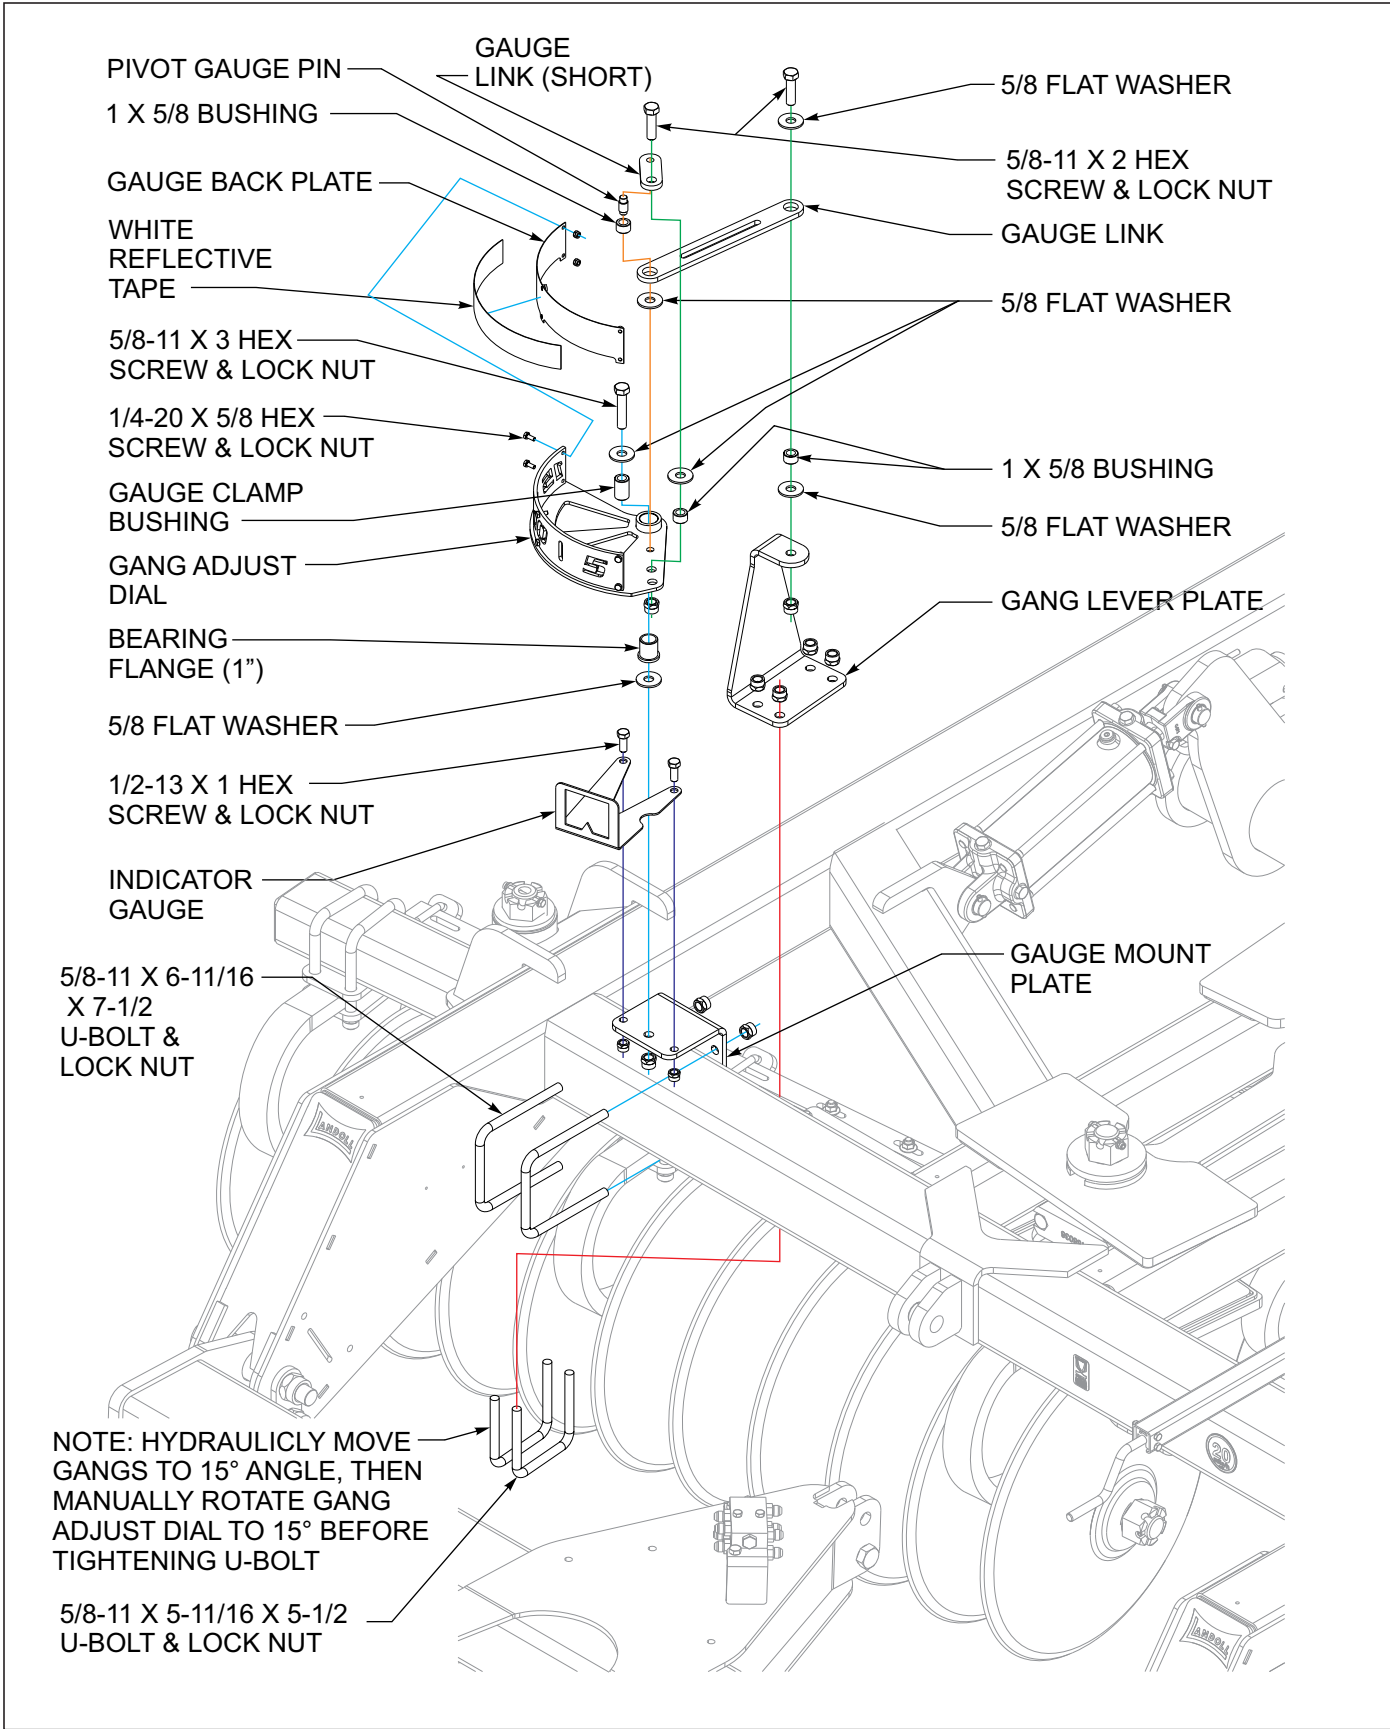

Figure 3-10: Disc Gang Adjust Gauge Installation
7. Install the gang adjust gauge as shown (**See Figures 3-10,**) All bolts may be tightened except the 5/8-11 x 5-11/16 x 5-1/2 u-bolts as this plate will need to slide to calibrate gauge.
8. To calibrate gauge the disc gangs will need to be adjusted to the 15 degree angle with hydraulics. (See Figures 3-10.) Then manually rotate gang adjust dial to 15 degree setting in indicator gauge. The gauge mount plate should measure 5-1/2" to end of front frame tube and the gang lever plate should measure 42-1/4" to end of gang bar as shown (See Figures 3-8.) Now the 5/8-11 x 5-11/16 x 5-1/2 u-bolts and lock nuts may be tightened (See Figures 3-10.)
9. Install a clevis pin and 1/8" hair pin through all castle nuts of center and outer gang bar attachment assemblies to prevent gang pivot nuts from loosening as shown (See Figures 3-10.)